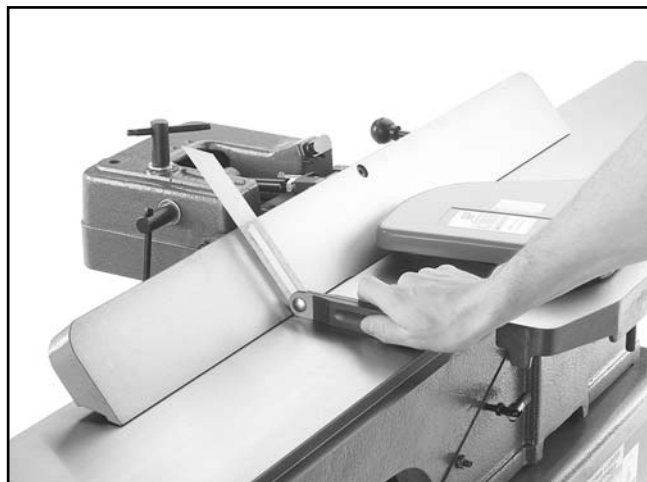

Figure 40. Checking the fence at 45°R with a bevel gauge.
3. Use a bevel gauge that is set to 135°, and place it on the table so the angled portion is against the fence as shown in **Figure 40**.